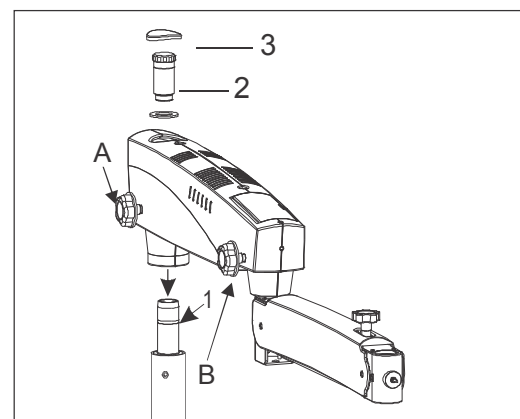

Fig.3
- 7.3 Retrieve the swivel arm and suspension arm assembly from the packing box and follow instruction as below (refer Fig. 3)
Install the swivel arm assembly on the upright holding shaft (1) figure 3.